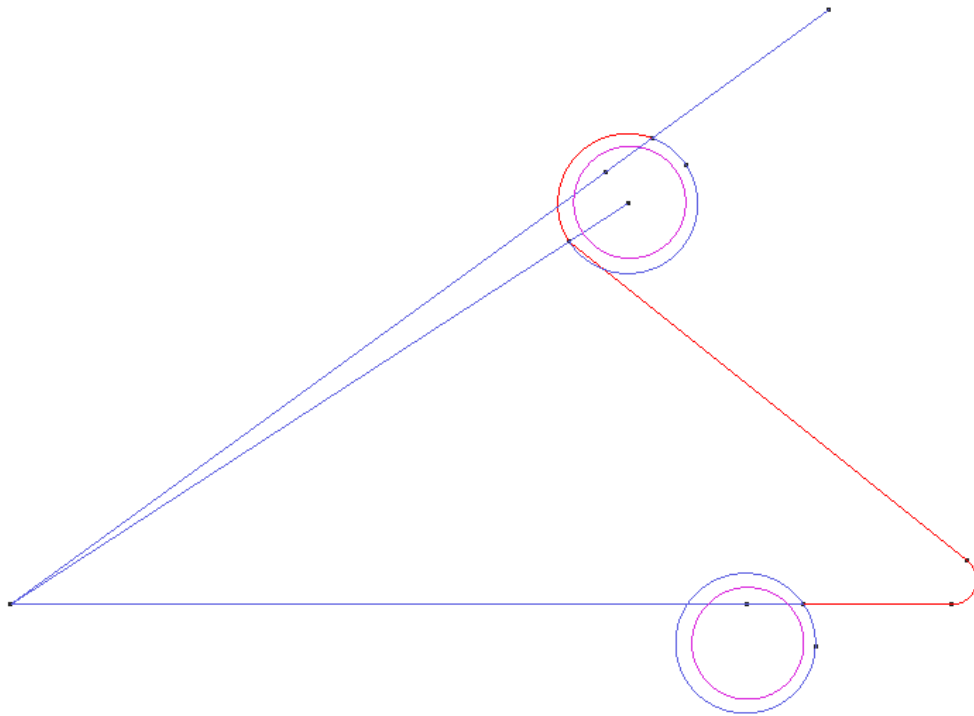

Figure 14. Lines to be selected
- 3 . Select only the lines that form the profile (Figure 14).